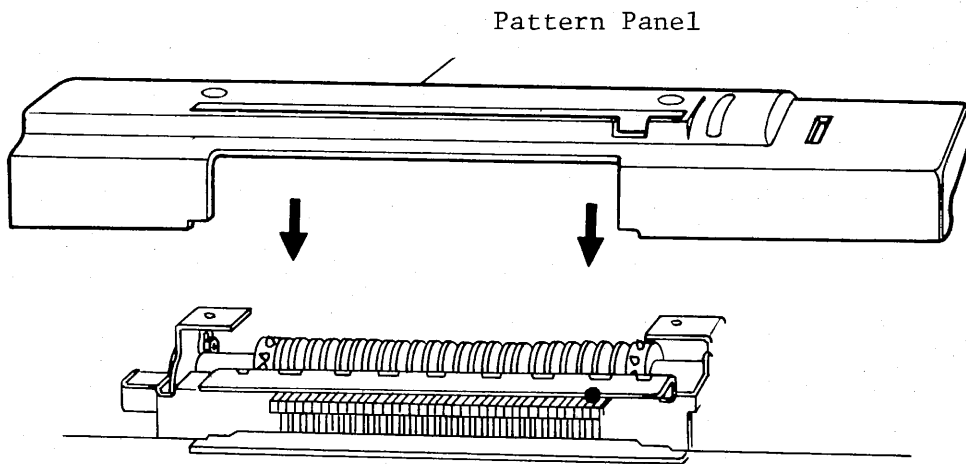

Fig. 88
- (1) Place Pattern Panel on Pattern Assembly as illustrated in Fig. 88